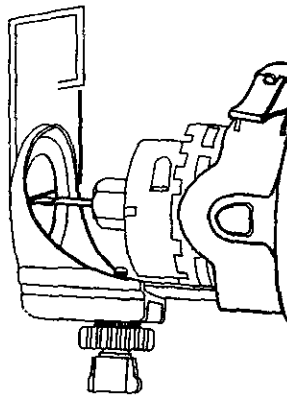

Fig. 8
5. Hold the tool firmly with both hands and turn it ON. Plunge the bit through the drywall at the mark indicating the center of the box. See Fig. 8 for cutting pattern.